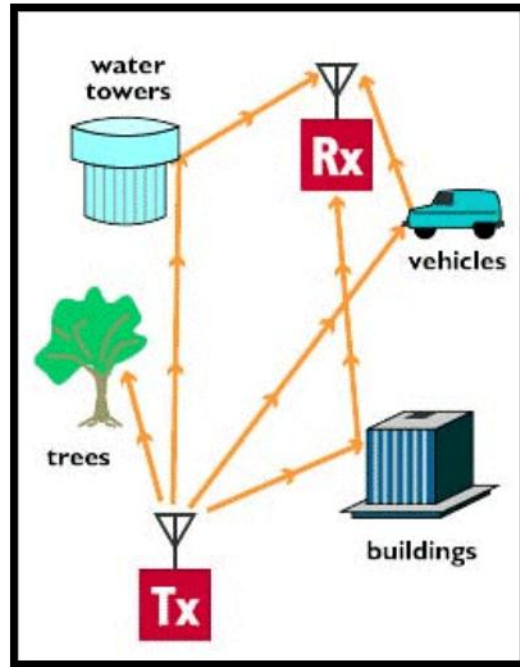

Figure 2: TELEMETRY
- (b) Given a TELEMETRY system in **Figure 2**. Answer Question below :